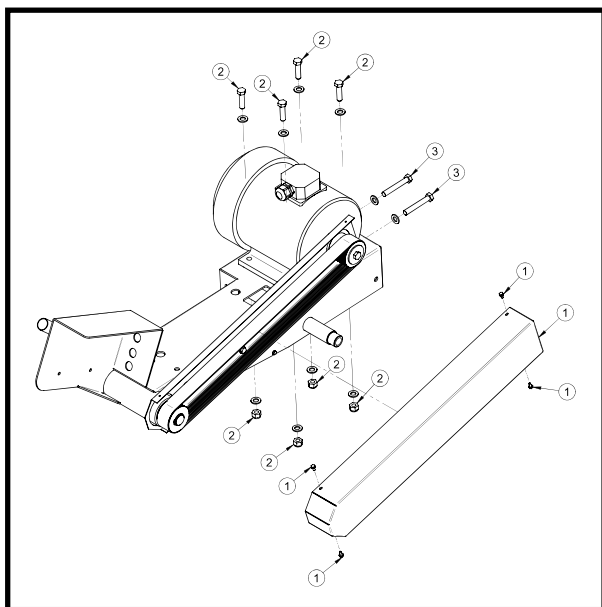

FIG. 8
2. Unscrew the 4 screws that secure the movable belt guard (ref.1, fig.8).
3. Loosen the 4 (ref.2, fig.8) screws that clamp the electric motor to the blade support.
5. Tighten the screws on the electric motor (ref.2, fig.8), checking the alignment of the motor pulley and the blade pulley
6. Refit the guard and lock it using the 4 screws (ref.1, fig.8).
2. Slacken the 4 screws fastening the belt mobile guard (ref.1, fig.8).
3. Slacken the 4 screws (ref.2, fig.8) fastening the electric motor on the disk holder arm.
4. Slacken the belt working on the screws (ref.3, fig.8) and replace it with the new one.
5. Pull the belt working on the screws (ref.3, fig.8): if the belt tension is correct, applying a force of approx. F=6 Kg at the centre of the free section of belt, the camber should be approx. f=6 mm (fig.9).
6. Tighten the electric motor screws (ref.2, fig.8), checking the alignment of the motor pulley and that of the disk.
7. Refit the belt guard and lock it with the 4 screws (ref.1, fig.8).